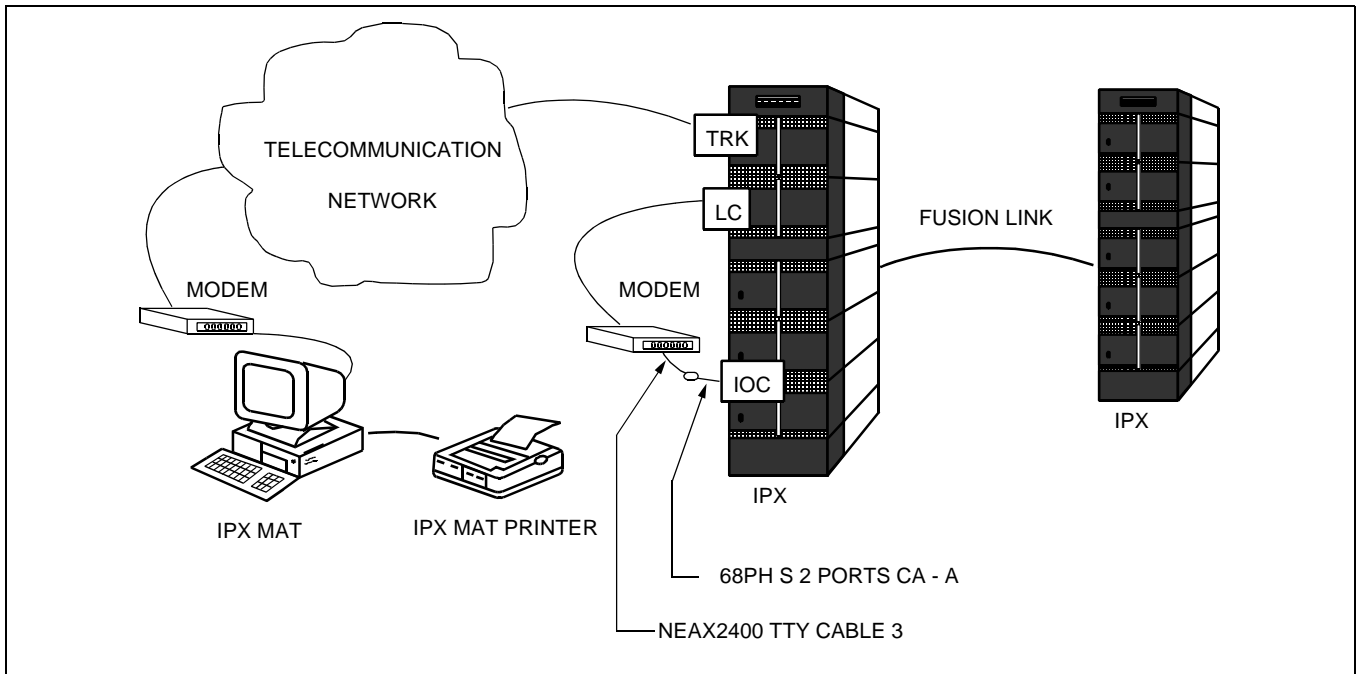

Figure 2-2 Serial/Dialup Connection to IPX
IPX MAT software supports serial/direct connection to the target IPX. As seen in Figure 2-2, a modem is required at both the remote maintenance center and the IPX site. The LINE port of the modem located at the IPX site should be connected to the dedicated Line Circuit (LC), and the DATA port should be directly connected to the IOC card. The serial/dialup connection allows you to access both the first node (IPX) of the Fusion Link network and all other nodes within the Fusion Link network.